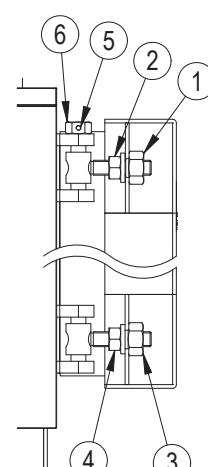

fig. 10
5.6.2 For models PREXTERM RSW 720N÷1060N (Fig. 10)